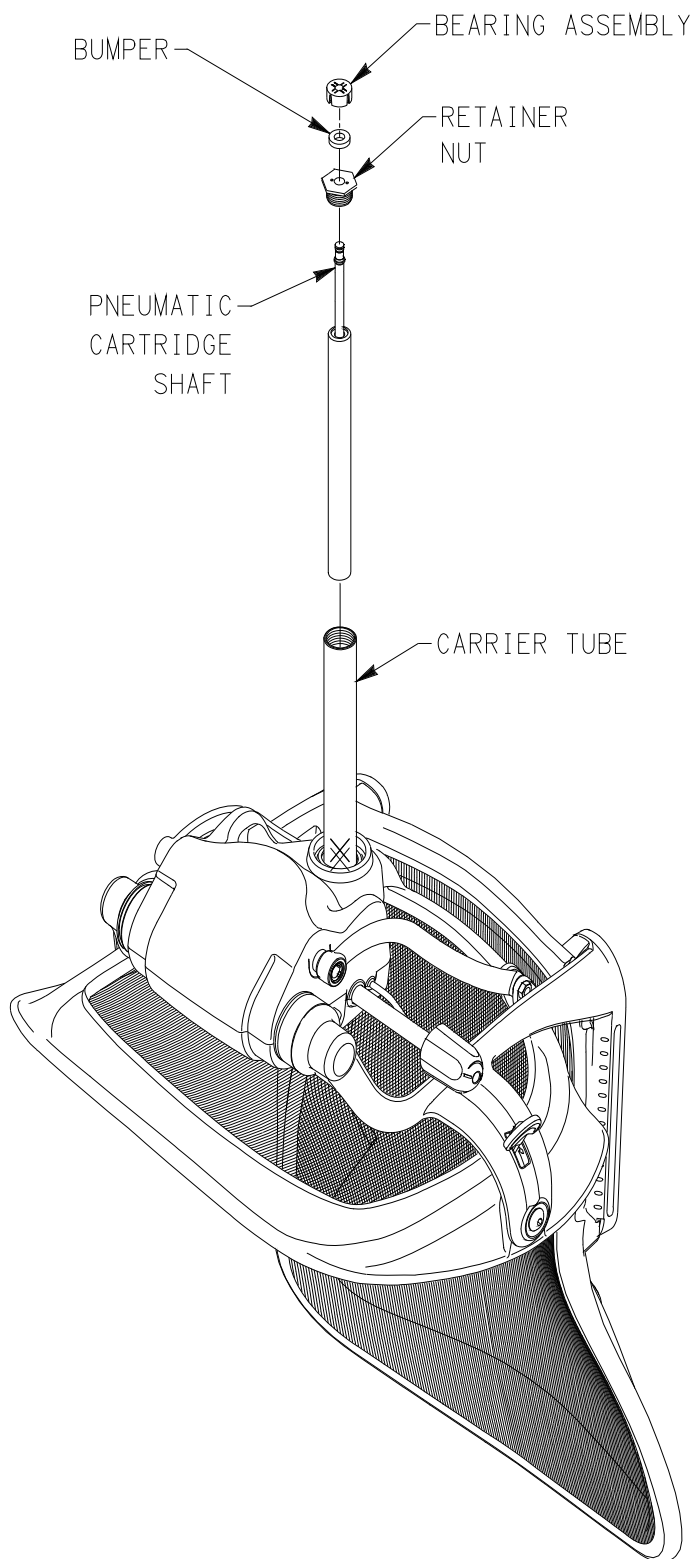

FIGURE 2
8. INSERT REPLACEMENT PNEUMATIC CARTRIDGE INTO CARRIER TUBE. SECURE WITH RETAINER NUT. DO NOT OVER TIGHTEN RETAINER NUT. INSTALL BUMPER AND BEARING ASSEMBLY OVER PNEUMATIC CARTRIDGE. SEE FIGURE 2.